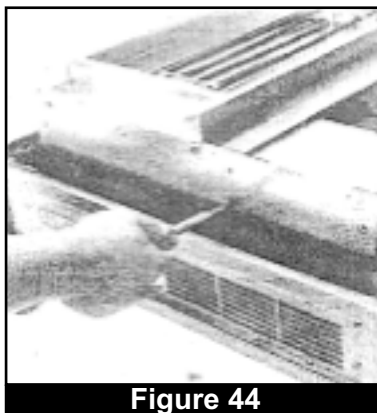

Figure 44
7. For CA43 units, remove four screws (two at each end) that hold the fan blower motor bracket in place. Use a medium flathead screwdriver. Gently lift bracket to expose mounting clips for the copper thermostat probe. Remove the two screws securing the clips holding the copper thermostat probe with medium flathead screwdriver. Free copper probe and carefully set out of the way. (Figs. 44 & 45)